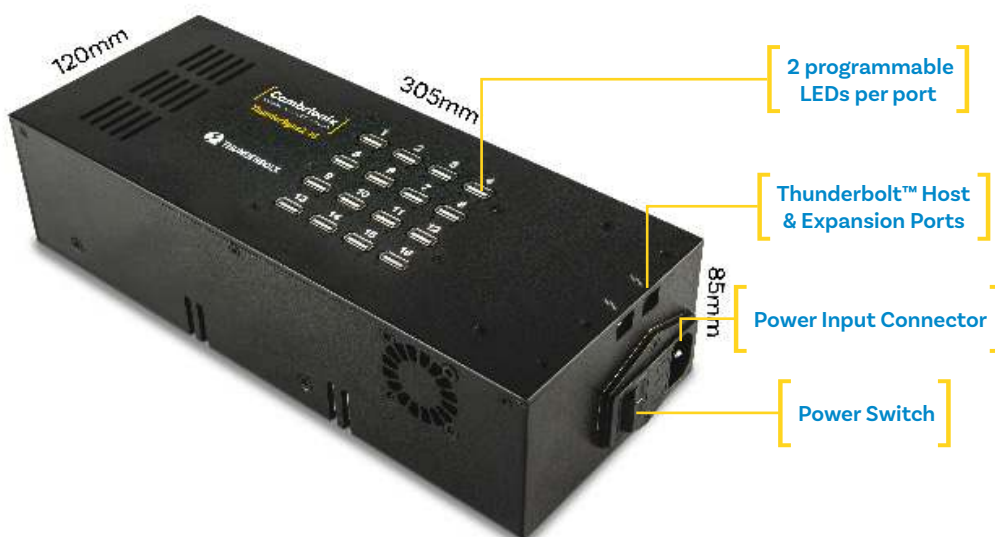

Figure 1
- **The TS2-16 unit (see Figure 1 below)**